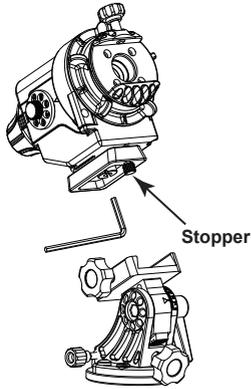
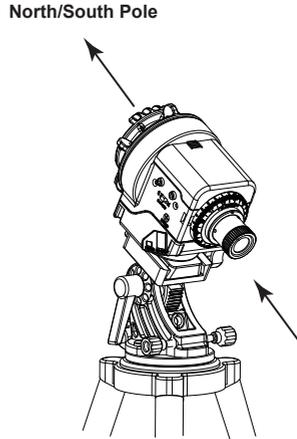

Fig 6
Fig 7
**With Equatorial Wedge:** Make sure the **1/4" to 3/8" Convert Screw Adapter** is not in the 3/8" threaded socket at the bottom side of the **Sky Memo S**. If it is, use a Slot Screwdriver to remove it. Mount the **Sky Memo S** on the (optional) Equatorial Wedge (Fig 6). Make sure the Stopper is facing forward. Then point the **Polar Scope** to the direction of the North Pole (For Northern Hemisphere observing) or South Pole (For Southern Hemisphere observing) (Fig 7). Lastly, complete the Polar Alignment process (Please see **Polar Alignment** session for reference).